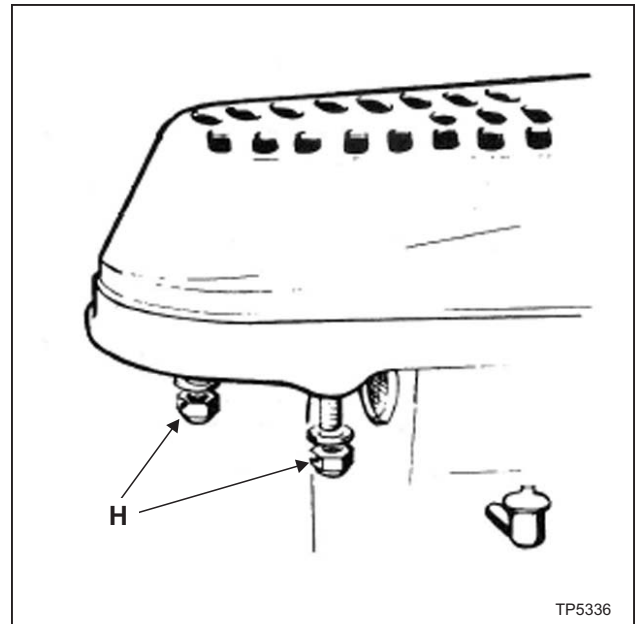

Figure 3.17 - E-Head Motor Removal
1. Loosen two hex nuts "H", Figure 3.17, on either side of belt housing.